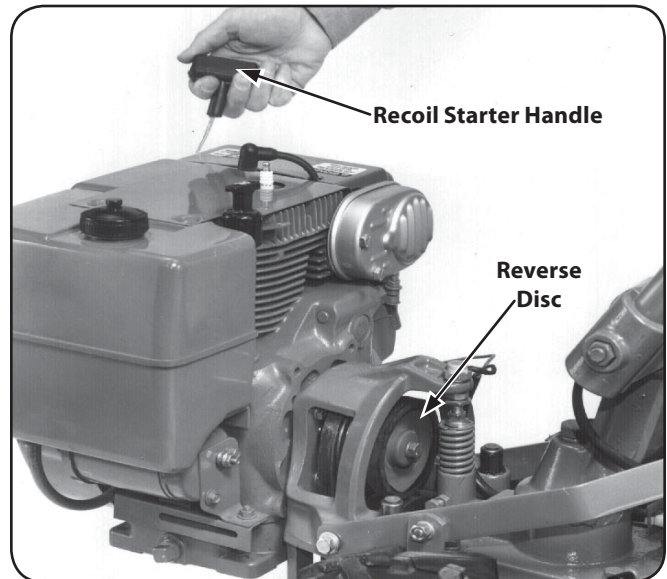

Figure 6-20
2. Place Wheels/Tines/PTO Drive Lever in NEUTRAL. Briefly pull out the engine recoil starter handle while watching the reverse disc. The disc should turn, but lower pulley should not. See Fig. 6-20. If the reverse disc turns the lower pulley, or if it is located closer than $\frac{3}{16}$ " to the pulley, reverse adjustment bolt should be adjusted upward. Moving the adjustment bolt upward will also solve the problem of a tiller that goes into REVERSE on its own.